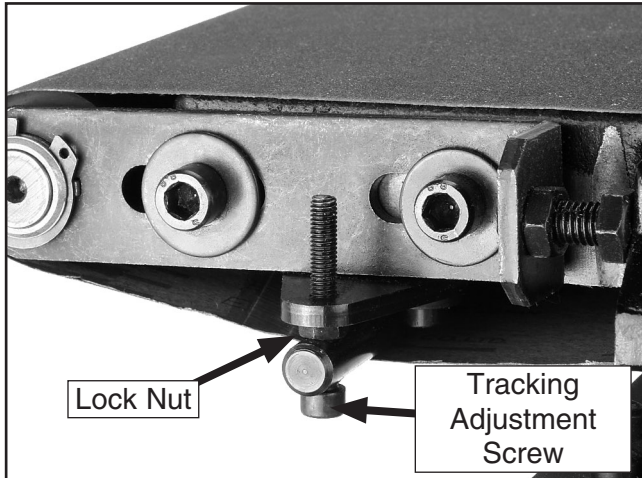

Figure 38. Feed belt tracking adjustment bolt.
- Loosen the lock nut (**Figure 38**) on the side that the feed belt tracks towards and tension the tracking adjustment screw until the feed belt tracks in the opposite direction.